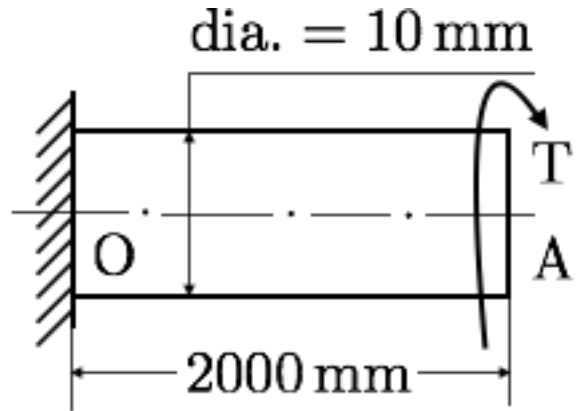

Figure 3: A Bar Subjected to a Torque
5. The bar shown in Figure 3 is acted upon by a torque $T = 20 \text{ N} \cdot \text{m}$. Answer the following questions assuming $G = 80 \text{ GPa}$.